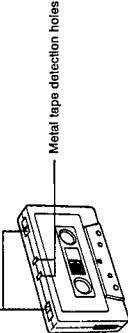

Fig. 2
- Loose tape may become tangled in the tape transport mechanism. Remove slack by winding the tape with a pencil. (Fig. 2)